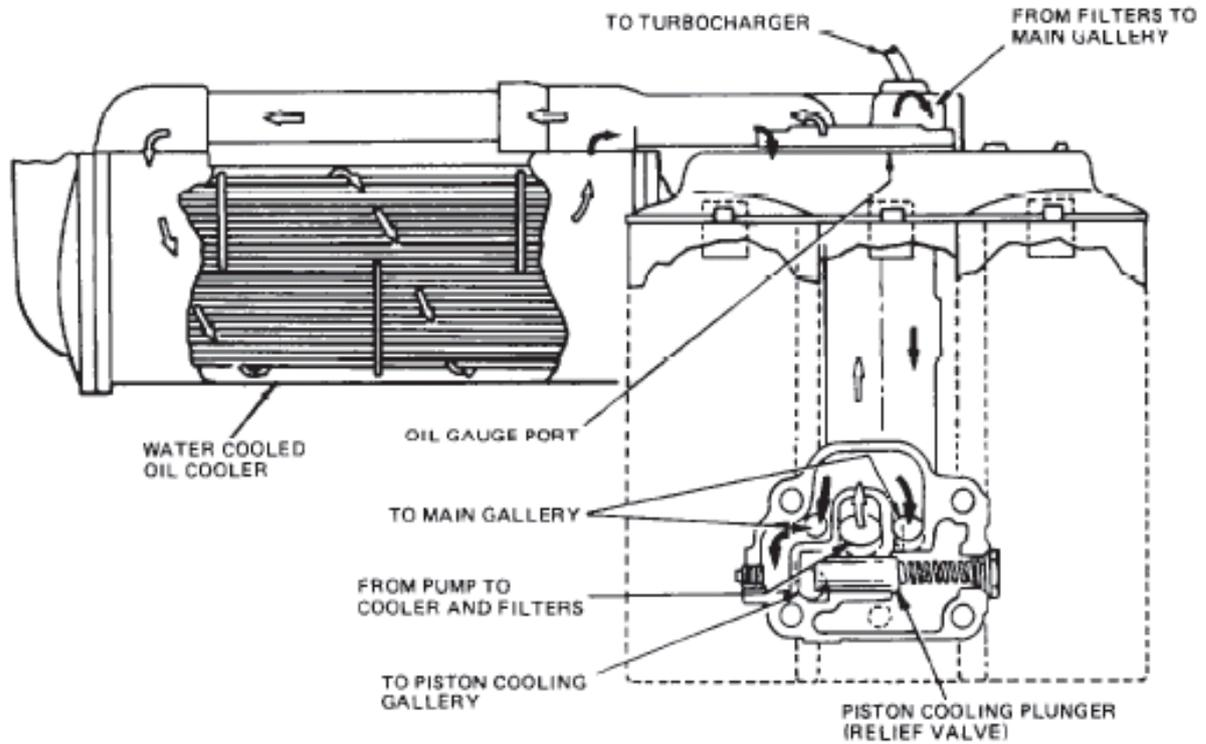

Figure 6 Oil Flow Diagram (Side View)
23. The pressure relief valve housing directs oil flow through an adapter to the oil cooler; from there to the oil filter mounting adapter assembly and into the oil filters. The filters are mounted to function in parallel. In addition, the adapter assembly houses the oil filter bypass relief valve assembly. This valve is pre-set to retain 260 to 360 kPa (38 to 52 psi) oil pressure before opening when the filters become restricted. After the oil has been filtered, it returns to the pressure relief valve where it is then directed into the engine oil galleries (Figures 6 and 7).